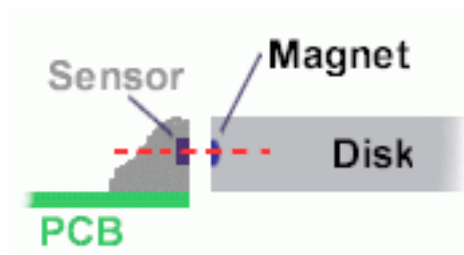

Figure 10 Ensure correct alignment of magnet disk and sensor.
- Take care that the magnets in the disk are approximately in the same height as the sensor, see figure 10.